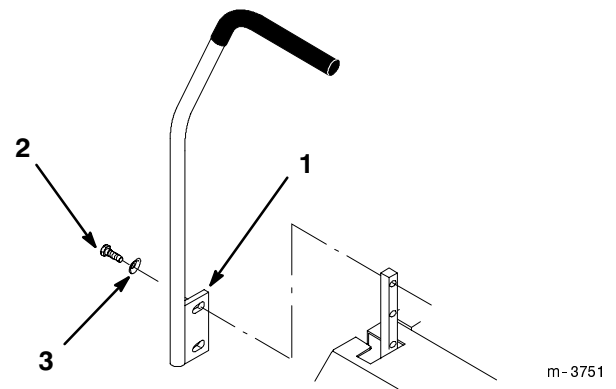

Figure 4
1. Remove the 4 bolts (3/8 x 1 in. (26 mm)) and 4 spring washers (3/8 in.) which attach the motion control levers to the control arm shafts for shipping (Fig. 4).
2. Place the levers (with the mounting plate toward the rear) on the outside of the control arm shaft and secure with 4 bolts (3/8 x 1 in. (26 mm)) and 4 spring washers (3/8 in.) (Fig. 4).
4. Align the front/rear position of the levers, with each other, in the neutral position. Loosen hardware and adjustment by sliding/tilting the lever(s) forward or backward until properly aligned (Fig. 4).